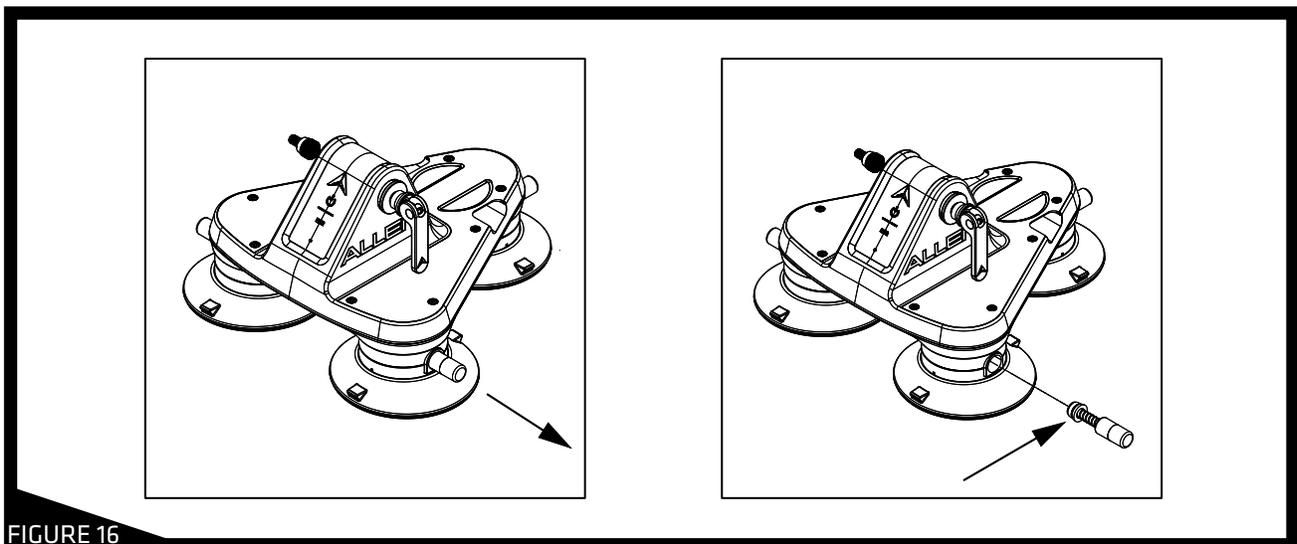

FIGURE 16
- Apply lubricant (not included) to the rubber plug at end of plunger as shown in **Figure 16**. Silicone lubricant is available for purchase at www.allen.bike > Parts.